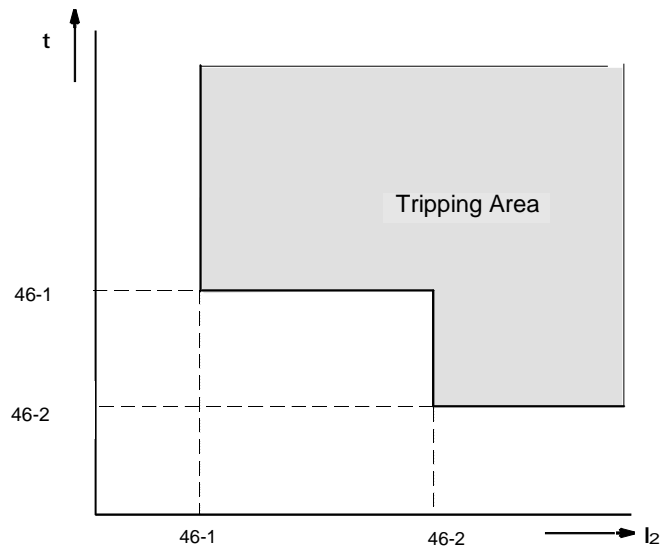
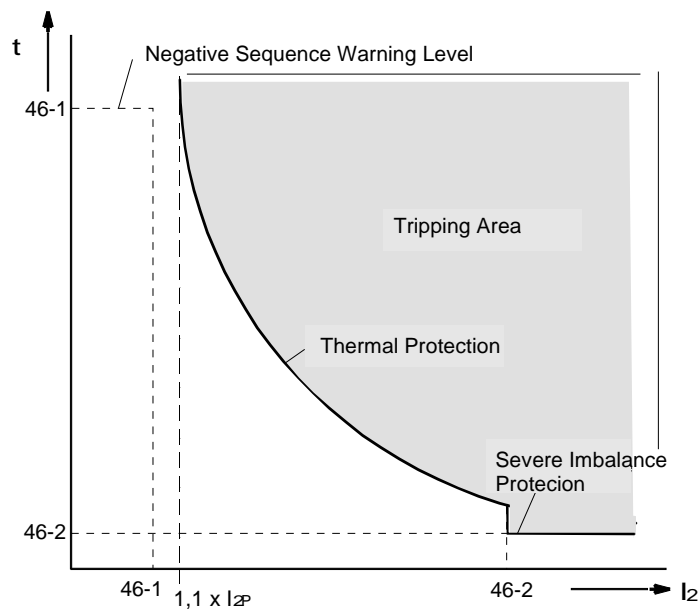

Figure 6-25 Definite Time Characteristic for Negative Sequence Protection
Figure 6-26 Inverse Time Characteristic for Negative Sequence Protection
The negative sequence protection feature of the 7SJ61 relay uses filtering to dissect the phase currents into their symmetrical components. If the negative sequence component of the phase currents is at least 10% of the nominal device current, and all phase currents are less than four (4) times the nominal device current, then the negative sequence current is fed into three time-overcurrent relay elements, two of which are definite time (see Figure 6-25) and one of which contains an inverse time characteristic (see Figure 6-26).
The two definite time elements are designated 46-2 and 46-1. Each of the two definite time elements will generate a message and initiate a time delay when picked up. Once either time delay elapses, a trip signal is initiated. Figure 6-25 illustrates the definite time characteristic when the 46-1 element is set with a more sensitive pickup value while the 46-2 element is set with a shorter tripping delay.
When the negative sequence current exceeds the pickup setting of the 46-TOC element by 110%, the element picks up, generates a message, and initiates time delayed tripping based on the selected characteristic curve. Once the corresponding time interval on the curve elapses, a tripping signal is initiated. The characteristic curve is illustrated in Figure 6-26.
If disk emulation is selected, the drop out begins when the current decreases to 90 % of the pickup value, and reset proceeds in accordance with the selected reset curve. When the negative sequence current is between 90 % and 95 % of the pickup setting, neither forward nor reverse movement of the disk is simulated. When the negative sequence current falls below 5 % of the pickup value, disk emulation is terminated and immediate reset takes place. Figure 6-26 illustrates the overall tripping characteristic.